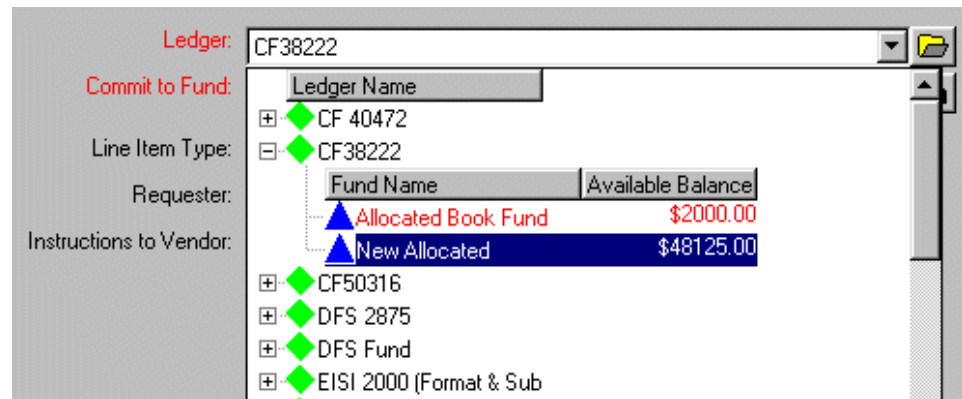

Figure 6-55. Ledger/Fund hierarchy displayed in the Ledger field
- If you want to select a fund from a ledger/fund hierarchy (Figure 6-55) rather than typing the fund code into the **Commit to Fund** field, click the **folder** button beside the **Ledger** field. This displays a hierarchy of available ledgers and funds. To aid you in selecting an appropriate fund, each fund's available balance displays within the hierarchy.